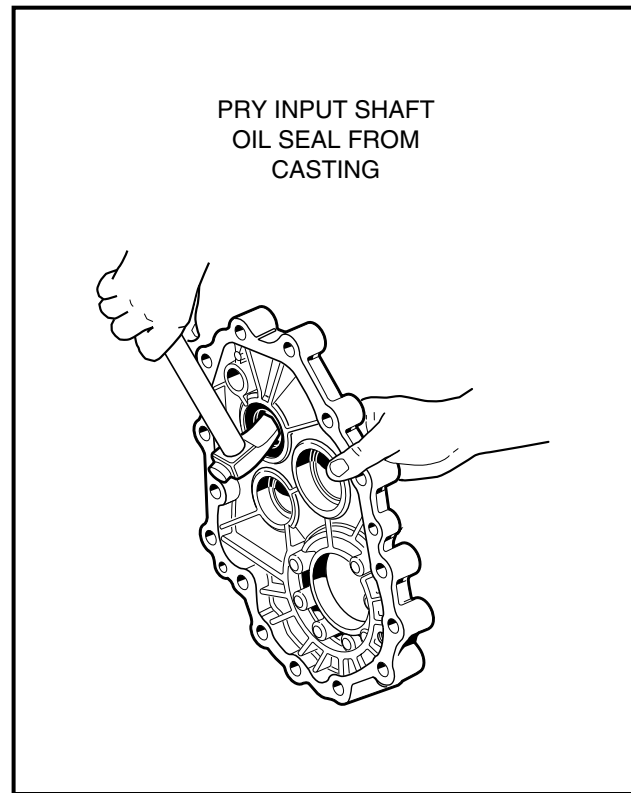

FIGURE 10-40
11. Use a seal puller (Club Car Part No. 1012809) or rolling wedge bar to remove the input shaft oil seal from the casing (**Figure 10-40, Page 50**).